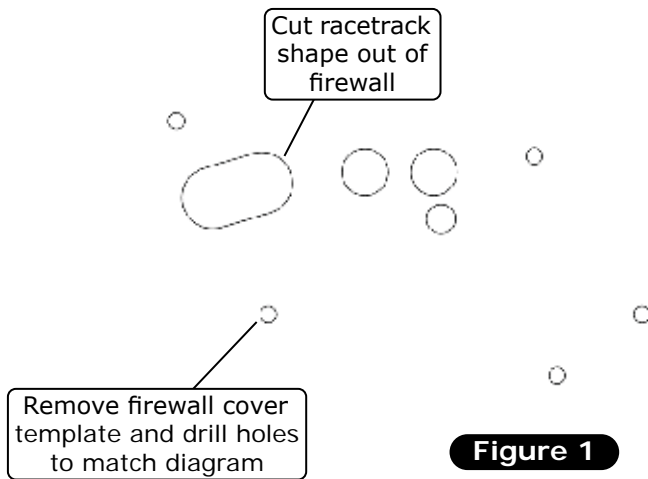

Figure 1
11. Remove the firewall cover template and drill holes to match the diagram shown in Figure 1, below.
12. Cut the racetrack shape out of the firewall (See Figure 1, below).
13. Temporarily install the evaporator firewall bracket onto the firewall using (2) 1/4-20 x 1 3/4" studs (See Photo 14, below).